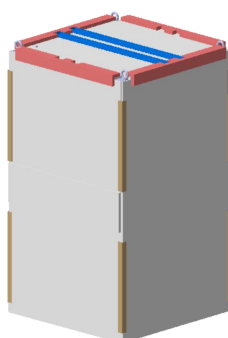

Figure 4-3 Packing solution
- 1) Before the equipment leaves the factory, the 215kWh liquid-cooled energy storage cabinet is protected by white EPE wrapping, the top four edges are protected by wooden corner guards, the vertical four edges are protected by paper corner guards, and the outermost side is protected by PE wrapping film, as shown in the following Figure 4-3: